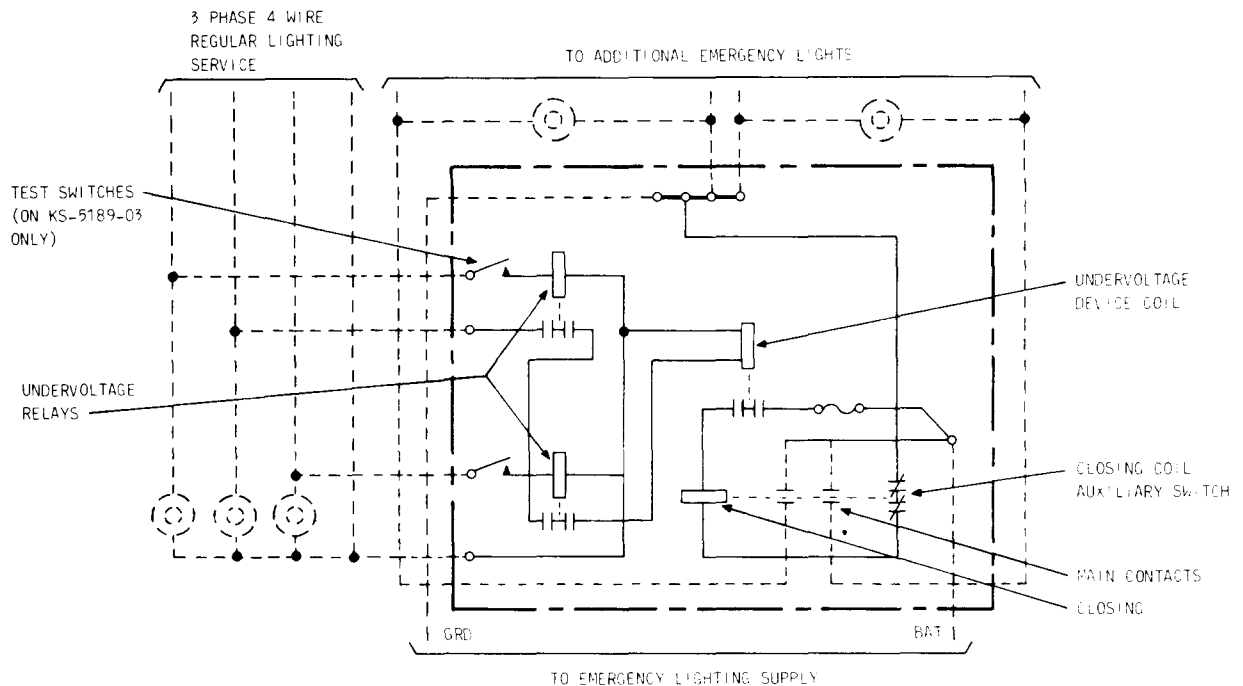

Fig. 3—Emergency Lighting Relay Switch Circuit Schematic (Old Version)
**1.08** The emergency lighting relay switch, for single-phase service, consists essentially of a contactor and undervoltage device. For operation on polyphase service, an undervoltage relay is connected across each additional phase as shown in Fig. 3. The contacts of the undervoltage relays are connected in series with the undervoltage device. The contacts of the undervoltage relays are closed when the voltage of the regular service is satisfactory. They open when the voltage is too low and release the undervoltage device which completes the circuit to operate the contactor and connect the emergency lights. The contactor locks close mechanically and in so doing de-energizes the closing coil. When the voltage of the regular service rises sufficiently, the undervoltage device again becomes energized and opens the contactor. On the early models, both battery and ground were fed through the contactor. At present, only the battery circuit is broken as shown in Fig. 3.
**Note:** A 120-volt coil is used for 115- and 200-volt services, the relay on the latter being connected across one side and neutral as in Fig. 3.